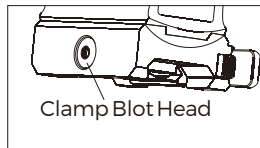

Fig6-2
- side of the mount. (See Fig 6-2) Before installation, loosen the screw to release clamp using included Torx wrench, and then;